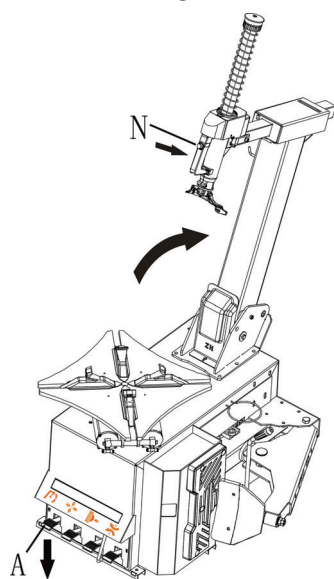
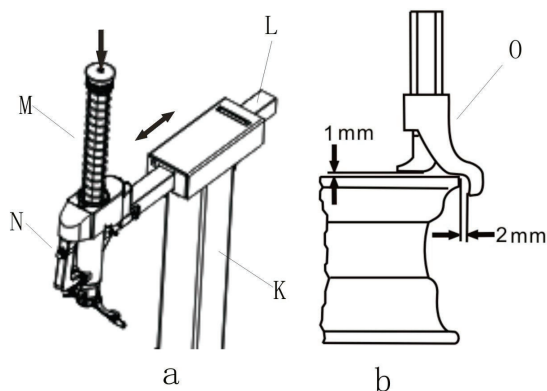

Fig.18
Fig.21
- Press switch handle button N (Fig. 18), fix arm.
- Press pedal A (Fig.18), let column back to working position, pull back switch handle N (Fig. 21-a), let the arm L and hex column M move freely. Push N and press M, make mounting head O against rim (Fig. 21-b), press switch handle N lock arm and hex column. Make sure mounting head keep a distance of 1~2mm from upper edge of rim and 2mm from outer edge of rim to avoid mounting head scratch rim.